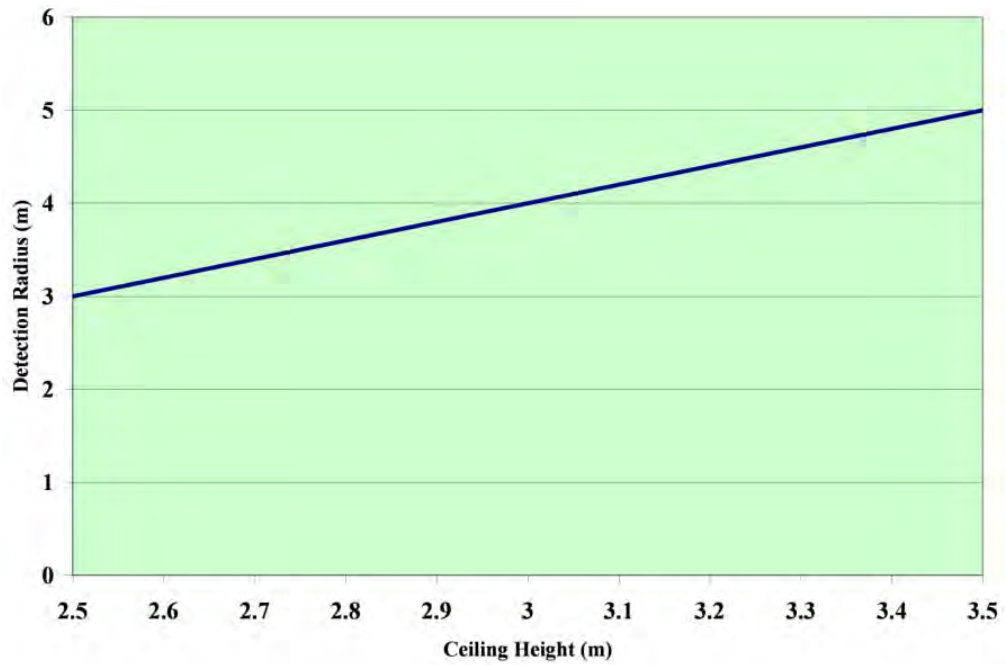

Figure 7. Master Detection Radius vs. Ceiling Height
Figures 7 and 8 can help to determine whether installation is sufficiently covered by the occupancy detection range of a single Master unit. If the situation requires, add Range Extenders to achieve coverage. When placing multiple Range Extenders, locate the Master toward the center of the grouping.
- Coverage area, as shown in Figures 7 and 8